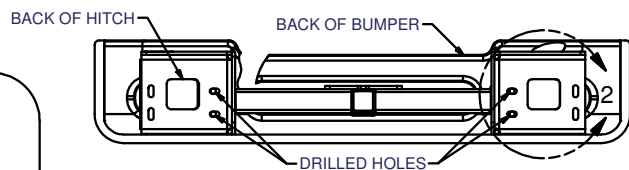

FIGURE 1
1. Remove (4) bumper bolts, bumper, shim plates and tow hooks (if equipped).
3. Place receiver hitch inside bumper and line up outside holes. See figure 1.